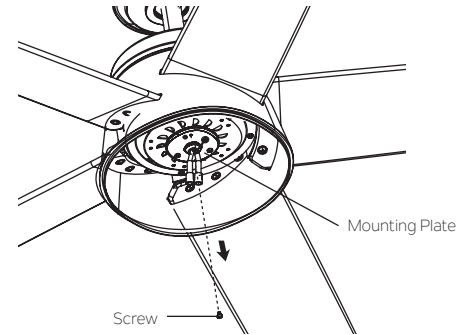

Fig. 19
**Step 1.** Remove the screw marked with a dot label which is preinstalled on mounting plate and keep for later use. Loosen the other two (do not remove). (Fig.19)